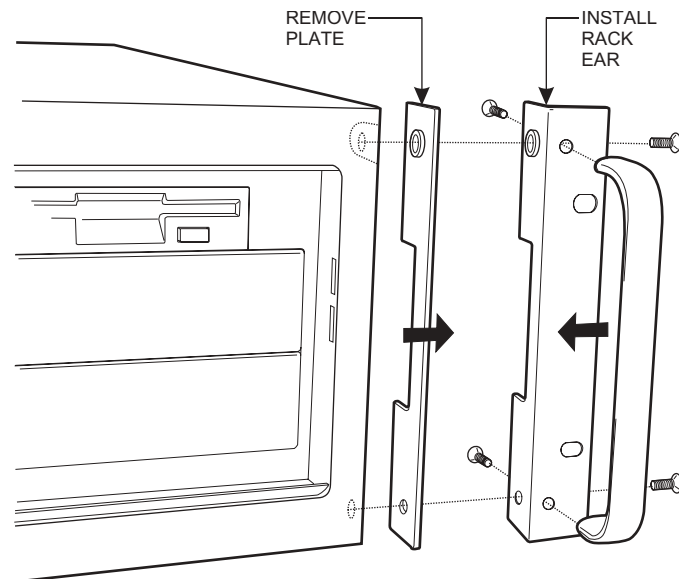

Figure 1. Rack Ear Installation
1. Attach the handles to the rack ears using four of the Phillips flat head screws (provided). Refer to Figure 1.
2. Remove the top screw and bottom screw from the left and right side of the DVR. Remove the side plates. Refer to Figure 1.
3. Use the screws removed from the sides of the DVR and attach the rack ears to the unit. Refer to Figure 1.